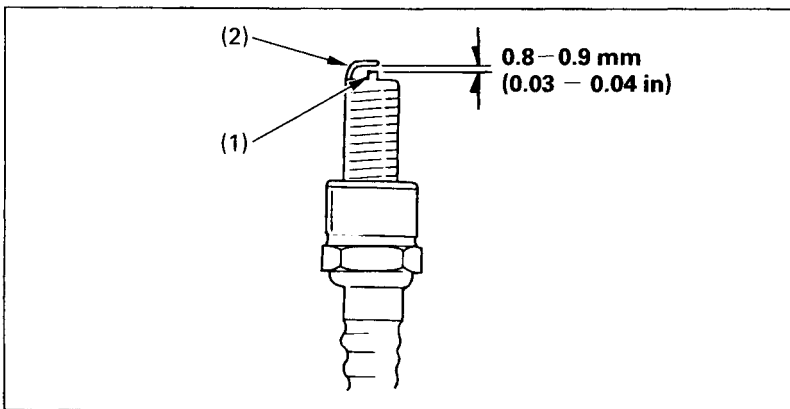

Fig. 4-14 (1) Center electrode (2) Side electrode
4. Visually inspect the spark plug electrodes for wear. The center electrode (Fig. 4-14) should have a flat tip and sharp edges, and the side electrode (2) should not be eroded. If the electrodes and insulator tip appear unusually fouled or burned, we suggest that you contact your authorized Honda dealer.